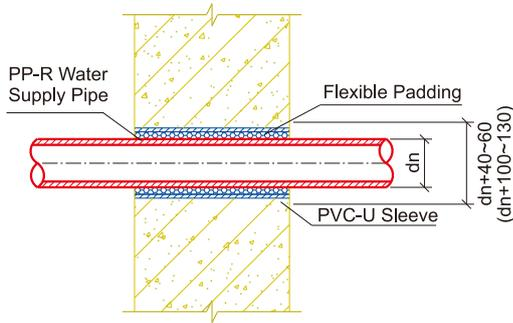

Fig.13 Pipe Crosses Ground Unit: mm
3.5 Lay the pipe under the concrete floor and cross the floor when introduce the pipe in the house from outside. The construction details have been showed in figure 13.